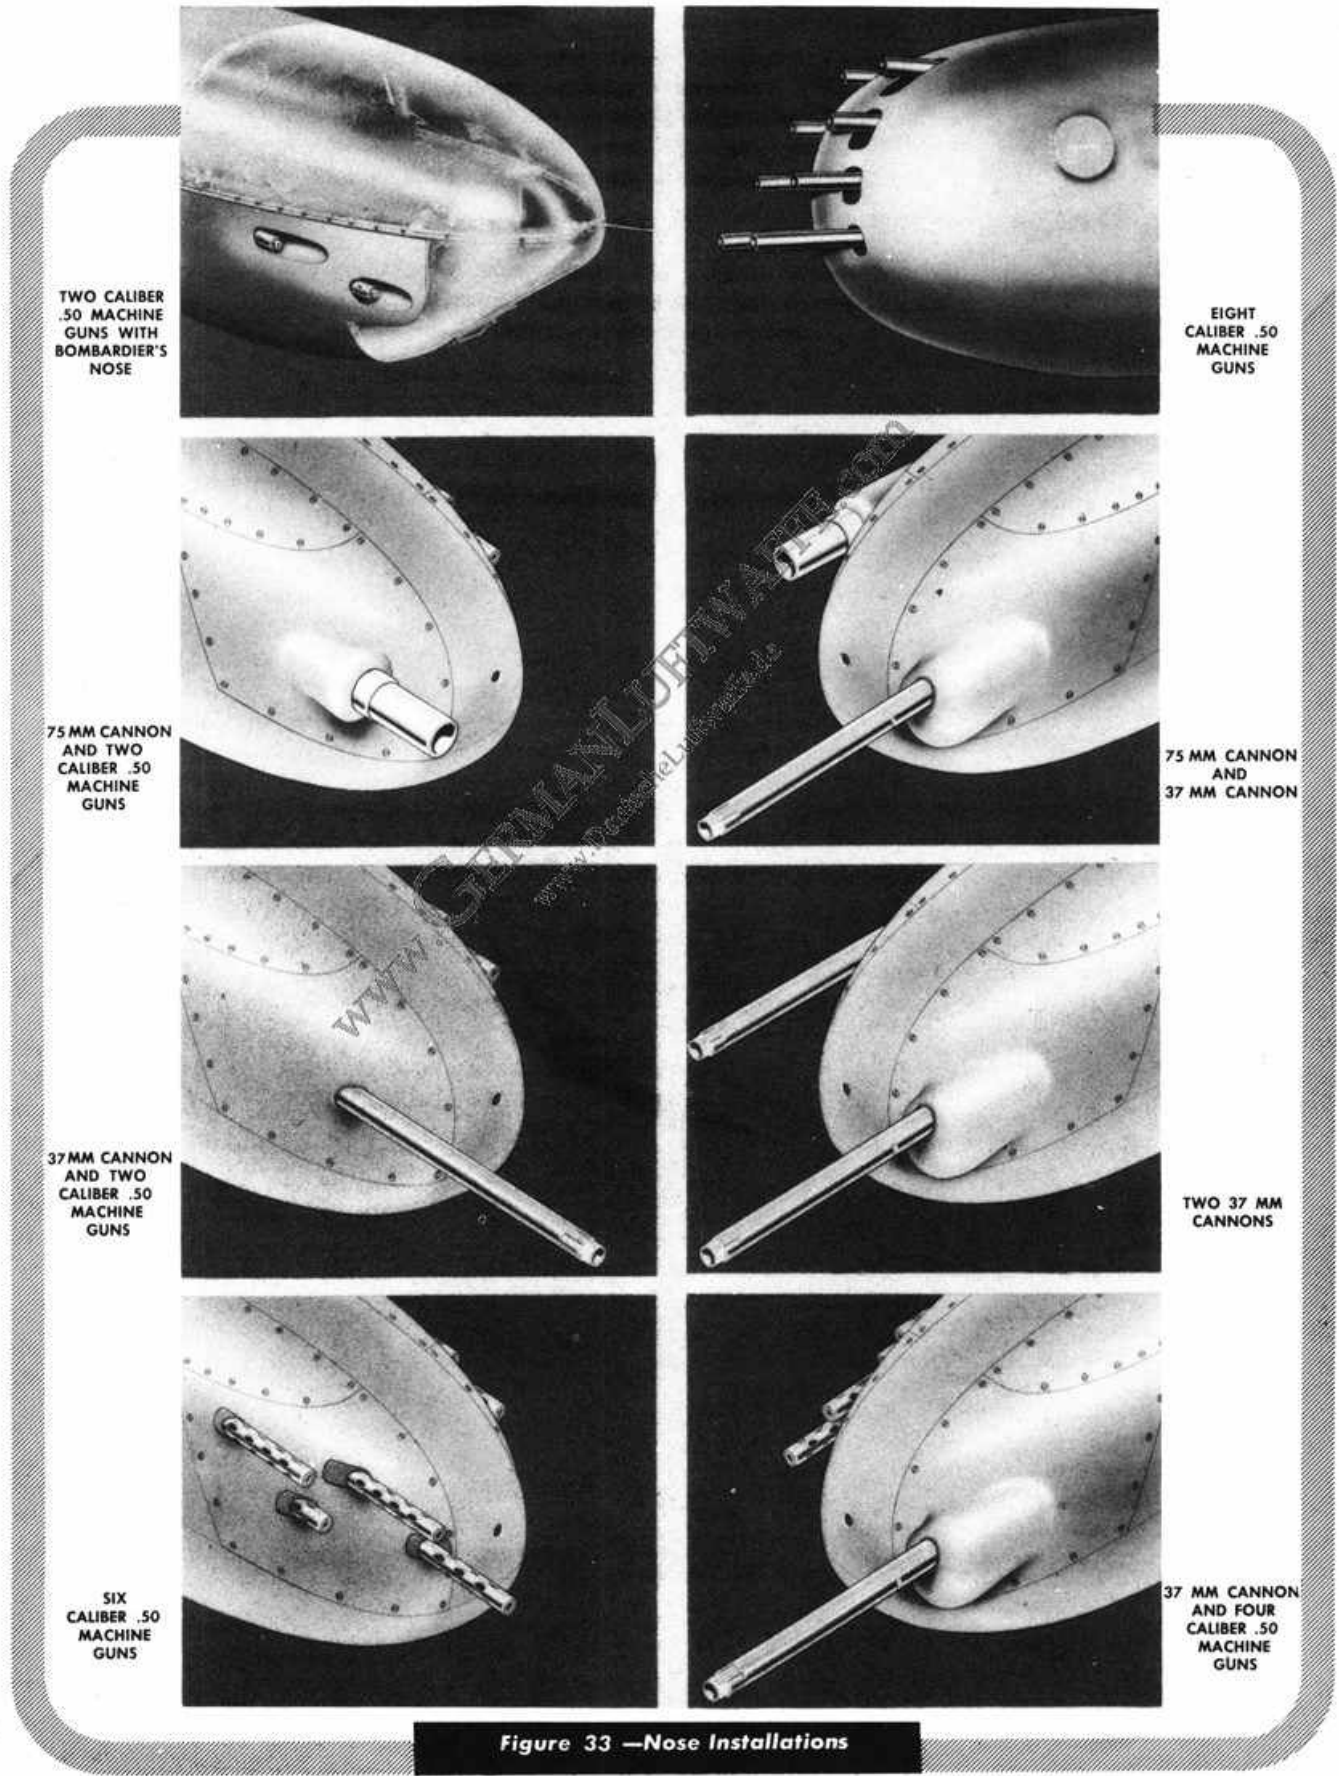

Figure 33 —Nose Installations
(Figures 33, 38 and 41.)
d. GUNNER'S SEAT. (*13, figure 33.*)—The gunner's seat is mounted on a circular track around the sighting unit. The seat can be rotated in either direction continuously by movement of the gunner's feet upon the compartment floor. The seat rotates independently of the sighting unit: This allows a finer control of the sighting unit. The seat is adjustable for height and can be locked in either the forward or aft position by engaging the forward-aft position lock pin assembly. A gunner's power seat drive unit is installed on some airplanes to drive the gunner's seat by means of an electrically operated motor. A lever lowers the drive shaft gear of the motor on to the ring gear when power is desired, and raises the drive shaft gear to disengage it from the ring gear. When the sighting station is turned in one direction it shifts the transmission which engages the gears and they rotate the gunner's seat to that direction. If the sighting station is turned in the opposite direction the transmission gears are shifted and the directional rotation of the gunner's seat is reversed.